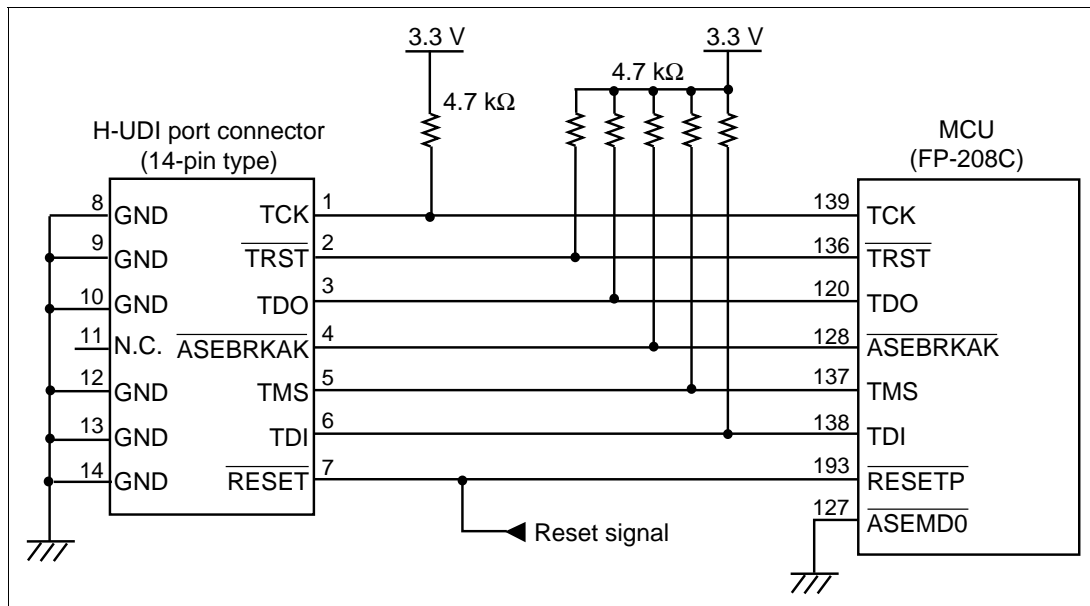

Figure 4.2 Recommended Circuit for Connection between the H-UDI Port Connector and MCU (14-Pin Type)
Figure 4.2 shows a recommended circuit between the H-UDI port connector and the MCU.
- (1) When the emulator is used: /ASEMD0 = low (ASE mode)
- (2) When the emulator is not used: /ASEMD0 = high (normal mode)
6. The resistance values shown in figure 4.2 are recommended.